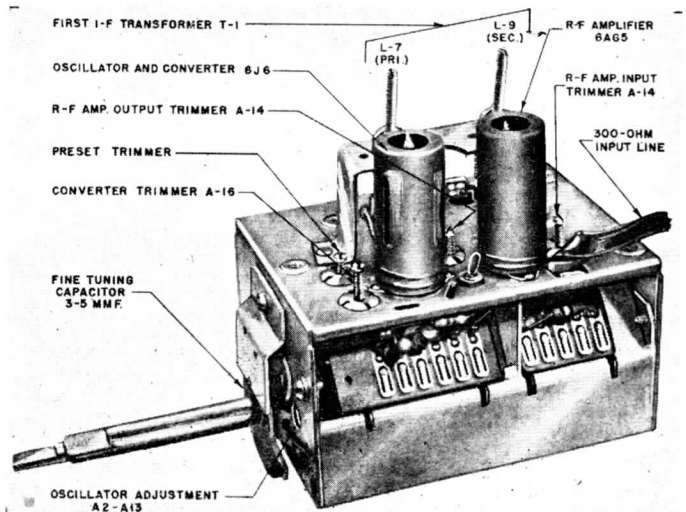

Figure 5-8—Tuner Alignment Points
- 6) Refer to figure 5-8 for tuner alignment points, and figure 4-12 for the tuner schematic.